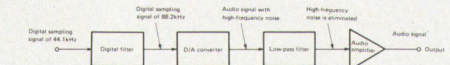
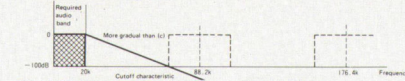

Fig. 3 Configuration with Digital Filter and Audio
Fig. 2 Spectrums of D/A Converter Output, Function of Low-pass Filter, and Filter Characteristics at Oversampling
-64dB at 160kHz . Therefore, these filters are not suitable for eliminating high-frequency noise components. A number of filters, each of which has the cutoff characteristic as shown in Fig. 2 (b), should be connected in series for sharp cutoff as shown in Fig. 2 (c). However, it is very difficult to realize such a characteristic that attenuation is flat up to 20kHz and sharply drops after 20kHz . Multistage (11-stage) low-pass filters are generally used in CD players. However, ripple occurs in their frequency characteristic due to deterioration of the phase characteristic. Nonlinear distortion will also be caused by a number of components used in such multistage configuration. Because of sharpened cutoff characteristic, the other characteristics of the filters are deteriorated. Therefore, if there is any method to attain the intended purpose with a gradual cutoff characteristic, these problems can be eliminated. A digital filter is intended to solve these problems.
Fig. 2 (d) shows the frequency spectrum when the sampling frequency is 88.2kHz . As apparent from the figure, the noise component at the original sampling frequency of $44.1\text{kHz} \pm 20\text{kHz}$ is eliminated by oversampling at 88.2kHz . Therefore, the cutoff slope of the low-pass filter can be as gradual as shown in the figure. Consequently, its phase characteristic is improved. The digital filter functions to double the original sampling frequency (or oversample at four, six, ..., times the original sampling frequency). Fig. 3 shows a circuit configuration using a digital filter to eliminate high-frequency noise components. In other words, the D/A converter is sandwiched between the digital filter and the analog low-pass filter.